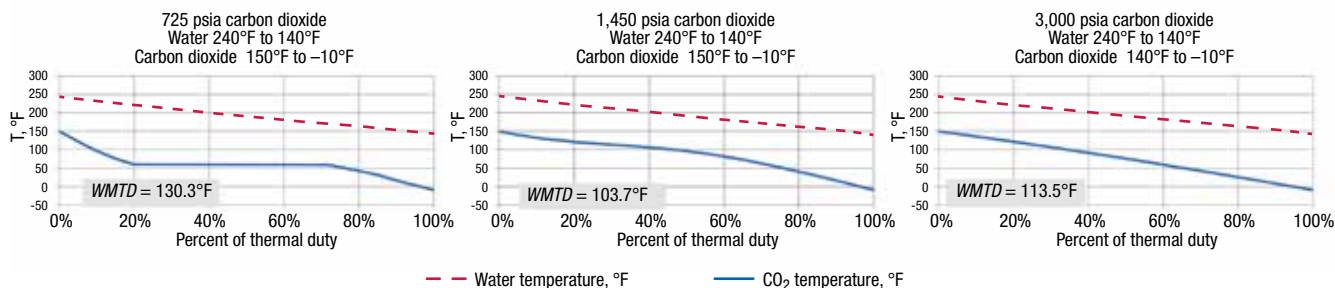
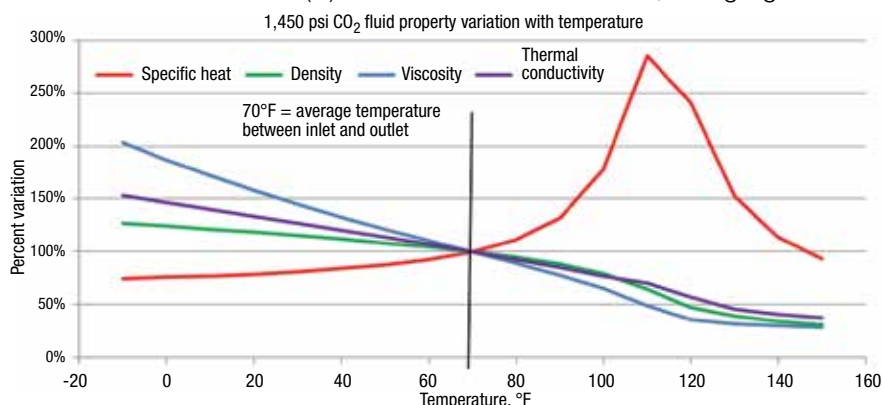

FIGURE 5. Shown here are the heating curves for CO₂ at three different pressures
FIGURE 6. Near the pseudocritical pressure, physical properties vary considerably as a function of temperature, especially the specific heat
FIGURE 5. The graph shows a comparison of the simulation and interpolating-model results. The interpolating model adequately represents the output of the full-order heat-flux simulation
Step 5 generates the usual intermediate statistics already described. The final R^2 is assessed by comparing the 189 outputs of the simulation against the interpolating model of Equation (15). Figure 5 shows the fit.
It is also interesting to compare the shape of the CO₂ heating curve for the very same temperature change from -10 to 150°F for three different isobars, as shown in Figure 5. A pressure of 725 psia is below the critical pressure. As the CO₂ is heated, there is sensible heating of liquid CO₂ up to the boiling temperature of 57.7°F. This is followed by isothermal boiling until all of the CO₂ is vaporized, and then gas sensible superheating to 150°F. In contrast, at a pressure of 3,000 psia, which is well above the critical pressure, the heating curve is close to linear and comparable to a sensible heating. For the 1,450-psia case, which is near to critical pressure, the shape of the heating curve is nonlinear and atypical.
(Figure 5), the graph shown in Figure 6 depicts how fluid properties vary from an inlet temperature of -10°F to an outlet temperature of 150°F. Specific heat capacity stands out. Noteworthy is the pseudocritical point, which is 1,450 psia and approximately 110°F. Specific heat reaches a maximum at the pseudocritical point and is lower on either side of this point. The graph provides comparison for how properties vary up or down from properties determined at average temperature of 70°F (the average of -10°F and 150°F).
From the graph shown in Figure 6, the specific heat variation greatly affects HTC , as does the viscosity and the thermal conductivity.